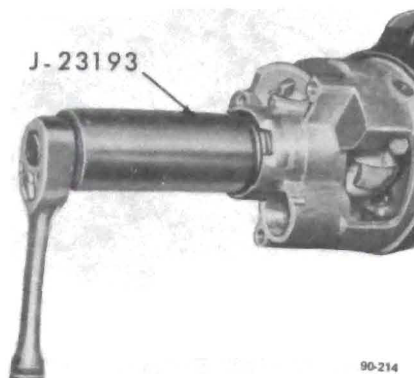
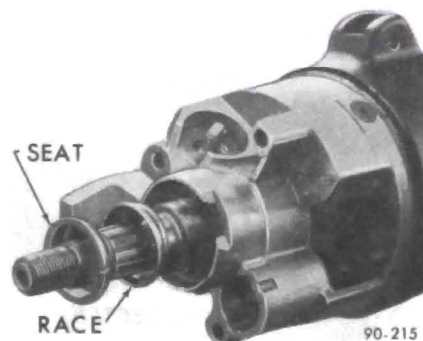

Figure 90-137 - Removing Upper Bearing Lock Nut
Figure 90-138 - Removing Upper Bearing Inner Race and Inner Race Seat
16. Remove upper steering shaft bearing lock nut using Tool J-23193. See Figure 90-137. Place tilt column in neutral position, and push upper steering shaft in sufficiently to remove steering shaft inner race seat and inner race. See Figure 90-138.